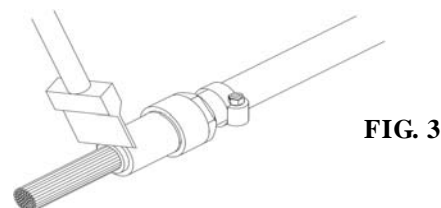

FIG. 3
4. Using a hot knife, cut the fiber as straight as possible using the fiber jacket as a guide. Do not saw or rock the knife blade back and forth. Hold steady pressure straight down on the fiber, tilting the blade of the hot knife at a slight angle, easing the pressure slightly while completing the cut. **FIG. 3**